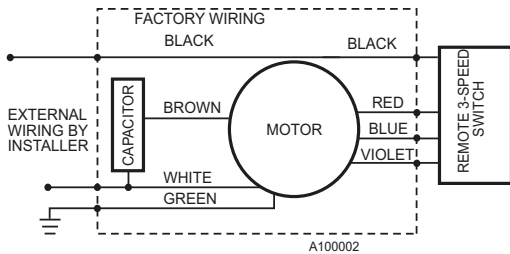

Fig. 16. Typical F116 Series 2 only 120V, 60 Hz wiring diagram.
All wiring must comply with applicable codes and ordinances. The power source must agree with the model type: 120V, 60 Hz. Refer to figure 16 for electrical connection setup.
2. Refer to figure 16 for typical electrical diagram